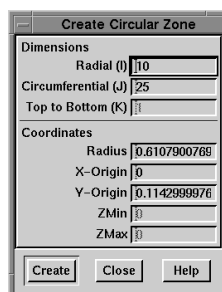

Figure 24-9. The Create Circular Zone dialog.
3. Drag the mouse until the boundary of the zone is as desired, then release. The Create Circular Zone dialog appears (see Figure 24-9) with the current origin and radius filled in for you. You may adjust the dimensions and coordinates as necessary.
1. From the Data menu, choose Create Zone, then Circular. The Create Circular Zone dialog appears, as in Figure 24-9.